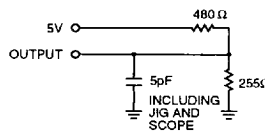

Figure 1b
10. Transition is measured $\pm 500mV$ from steady state with $C_L = 5pF$ as shown in Figure 1b on page 4. This parameter is guaranteed and not 100% tested.